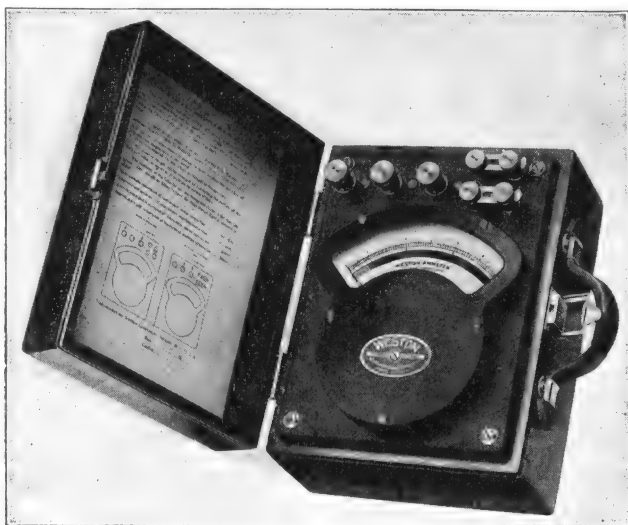

Fig. 7. An Electro-dynamometer Ammeter
**Electrodynamometer Ammeters.** The electrodynamometer ammeter, Fig. 7, is made in ranges from one to ten amperes and as milliammeters having ranges to as low as .015 ampere full scale. These instruments are usually made for two ranges. As there are
The electro-dynamometer ammeters as shown in Fig. 7 have double ranges, the higher range being twice the low range value. The combinations are 1-2,  $2\frac{1}{2}$ -5 and 5-10 amperes. The ranges may be extended by means of current transformers.